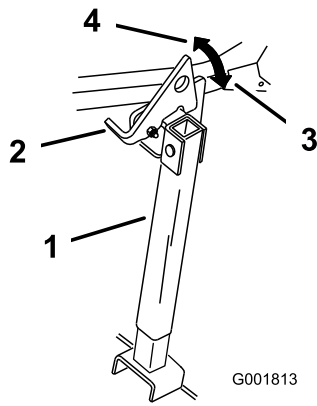

Figure 40
2. Raise the latch to the unlocked position (Figure 40).